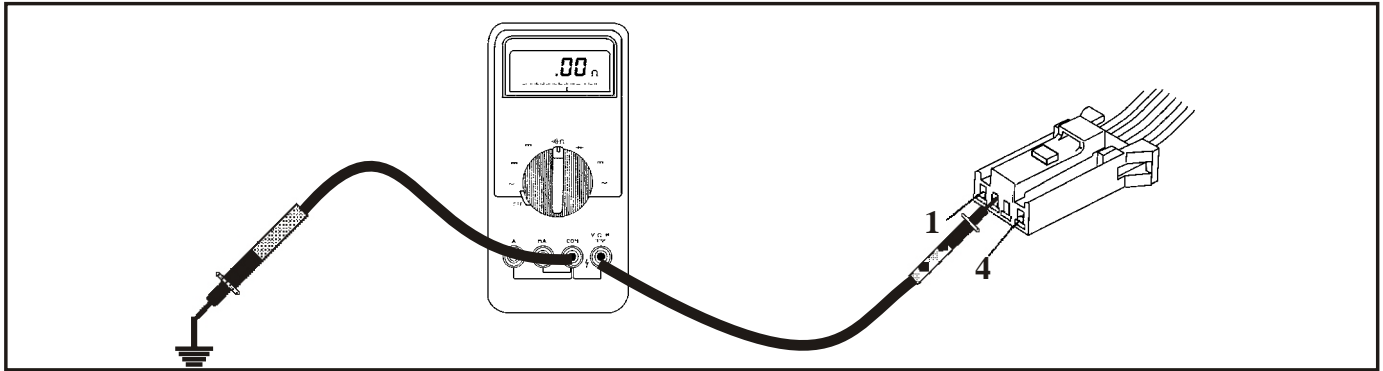

Figure 68
- Turn the ignition off and change the meter to read ohms. Keep the negative lead to ground and place the positive lead into terminal 2 of the Autostick connector (See Figure 68). If continuity (5 ohms or less) is observed, go to the next step. If continuity is not seen, the ground wire is severed or corroded. Repair or replace the wire.